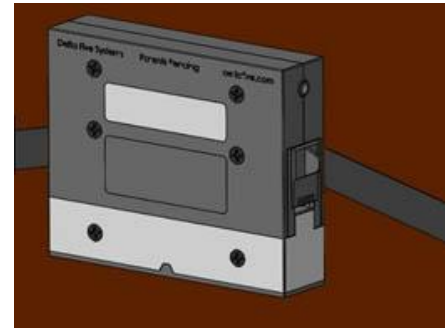

Figure 6
3. Begin placing the plastic block strips on the wall starting nearest the device just above the chamber entry (**Figure 6**).